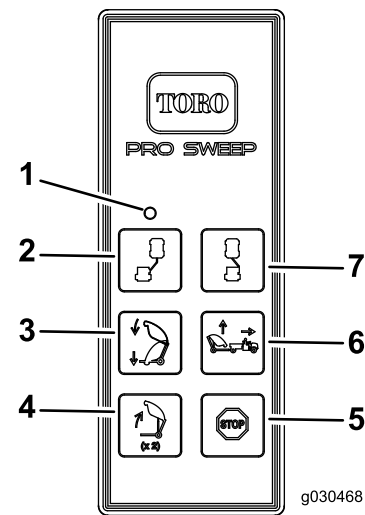

Figure 28
2. With the hopper at transport height, press the hopper dump button, release the button, and then press and hold the hopper dump button again (Figure 28).